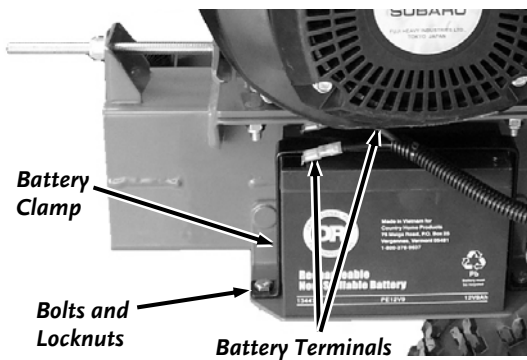

Figure 37
1. Disconnect the Battery Terminals (**Figure 37**).